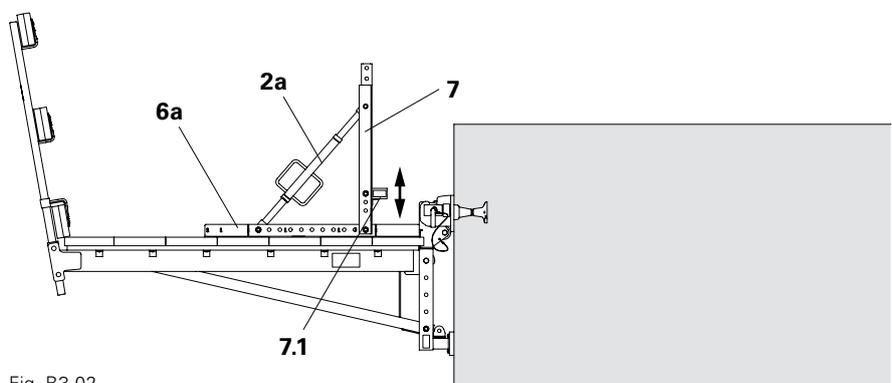

Fig. B3.02
1. Attach Formwork Post VGK 70 (7) to the Formwork Support VGK 60 (6a) with bolts.
2. Fix the Kicker AV 82 (2a) in the rear-most hole in the Formwork Support VGK 60 (6a) and in the top hole in the Formwork Post VGK 70 (7) with bolts in each case.
3. Insert Beam Support (7.1) in the corresponding position. (Fig. B3.02)